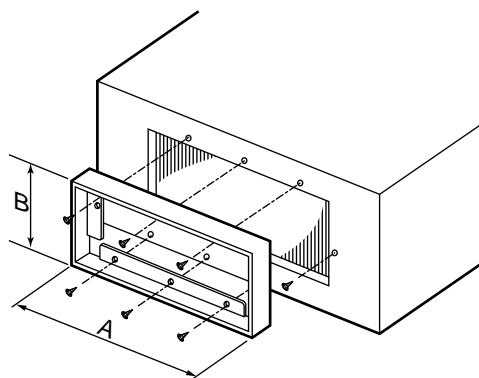

Fig. 1
- ① Using 6 screws, mount the flange to the supply air port of the indoor unit. (Fig. 1)
- ② Make the square duct according to inner dimension of the flange. $A \times B$.